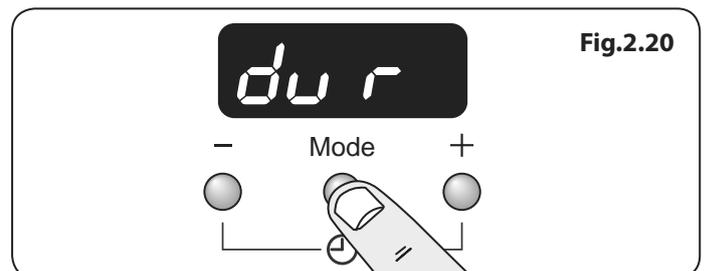

Fig.2.20
1. Press the mode [Mode] button, until the display flashes 'dur' **(Fig.2.20)**.